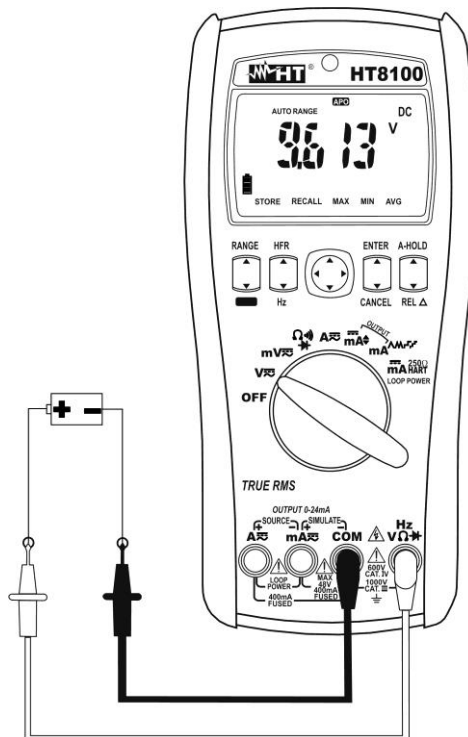

Fig. 2: Use of the instrument for DC voltage measurement
5. Position the red lead and the black lead respectively in the points with positive and negative potential of the circuit to be measured (see Fig. 2). The display shows the value of voltage
7. When symbol "-" appears on the instrument's display, it means that voltage has the opposite direction with respect to the connection in Fig. 2